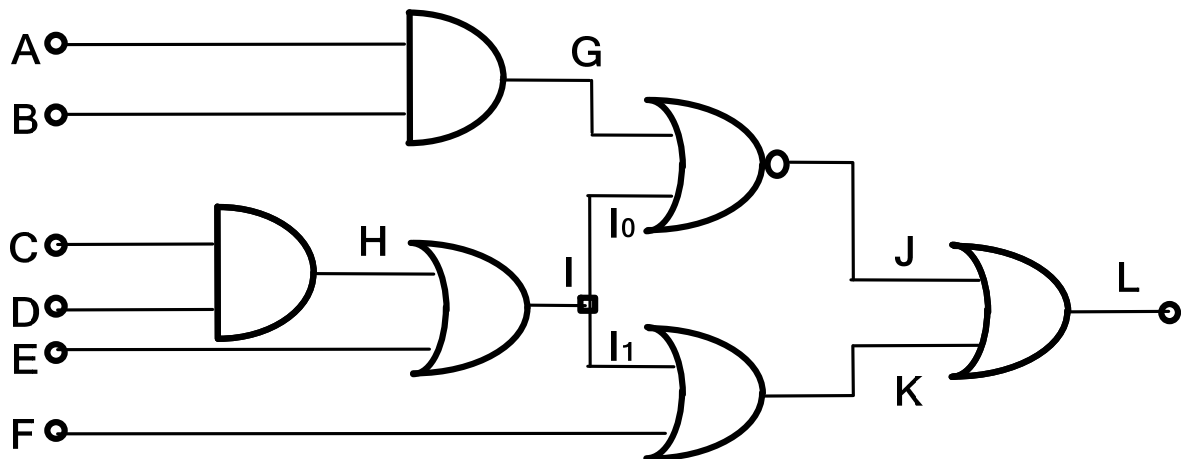

Figure 1
The aim in this task is to define a minimal (or almost minimal) set of test patterns to exhaustively test the circuit of Figure 1 for detectable single stuck-at faults.
Step 2: Consider the remaining (non-dominated and non-equivalent) faults for each gate of the circuit of Figure 1. Considering that a fault on the output of a gate is equivalent to the fault on the input of the following gate, and considering the *fault collapsing* rules (see lecture slides and results of 3.1.1), this should lead to a significant reduction of the fault list.
**3.1.2: List all non-equivalent and non-dominated faults for the circuit of Figure 1 (i.e. starting from the full list above, eliminate all equivalent and dominated faults). Show your work by identifying the reason for the eliminations (e.g., X s-a-0 is equivalent to Y s-a-1)**
The project contains a set of VHDL files that implement the circuit of Figure 1 with a fault injection mechanism that allows the simulation of the following faults: